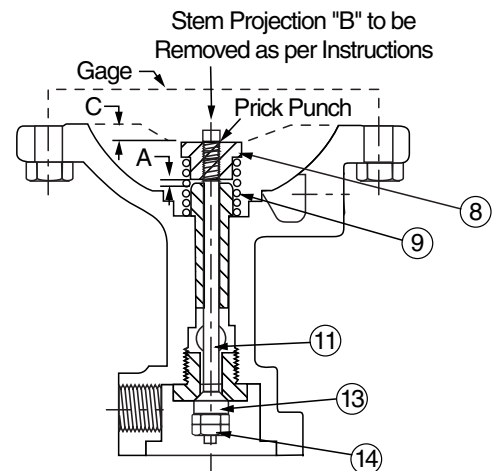

Figure 4
5. Screw pusher plate (8) on stem (11). Holding disc against its seat, adjust the pusher plate (8) so that dimension C = 11/64" (4.4mm) (See Figure 4). A pilot travel setting gage is supplied with each repair kit.